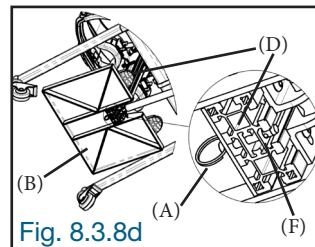

Fig. 8.3.8d
Insert the quick-release pin (A) under the foot plate (B), ensuring that the pin lock (F) is completely disengaged from the other side of the frame (D) so that it is properly locked (Fig. 8.3.8d).